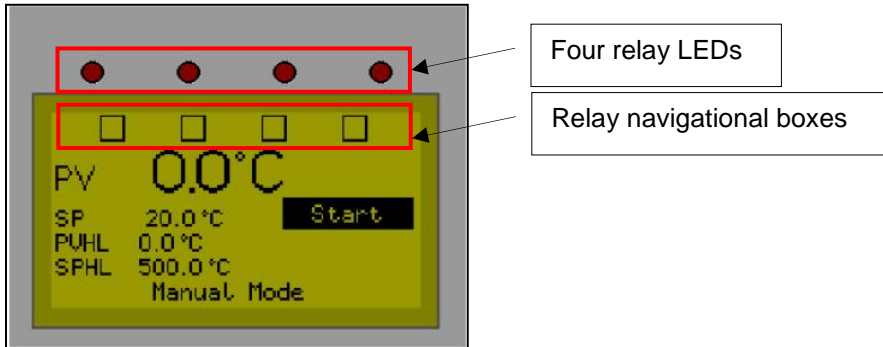

Figure 5. Manual Mode Display Screen.
Manual Mode allows the oven to operate continuously at a fixed temperature until turned off. Use Manual Mode (Figure 5) to control Set Point, High Limit Value and four relays.
3. Manual Mode allows you to set the setpoint (SP), and the High Limit set point (HLSP).
- a. Press or to navigate to and select the appropriate relay (Figure 5).
- a. Press  or  to navigate to and select the appropriate relay (Figure 5).